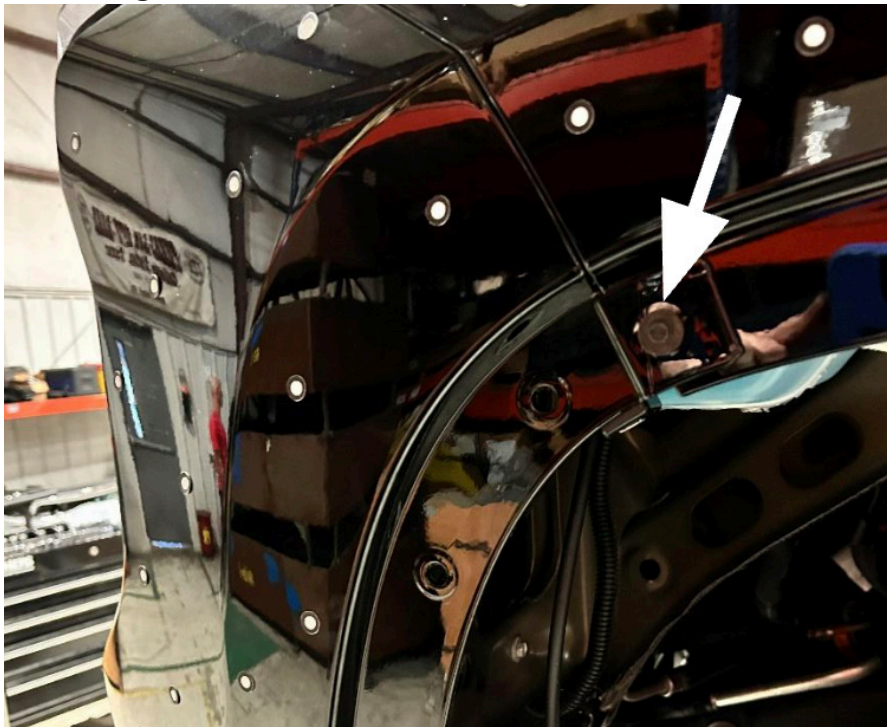

Figure 5
5. Using a 7mm socket wrench, remove the screw holding the fascia to the fender on each side of the vehicle. Figure 5